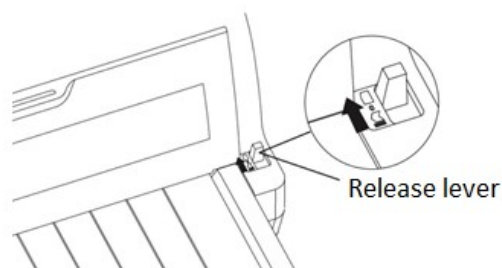

Fig. 2-11
- 1) Check the position of release lever, as shown in Fig. 2-11, adjust the release lever to the back(which is the flat-bed icon position).